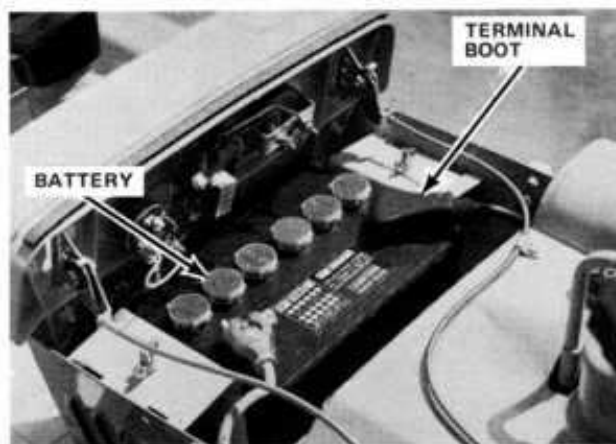

Figure 11
BEFORE DRIVING THE HUSKY, THE OPERATOR SHOULD BE FAMILIAR WITH THE LOCATION AND FUNCTIONS OF ALL CONTROLS. THE ENGINE WILL START ONLY WHEN PTO LEVER IS IN OFF POSITION AND PARKING BRAKE SET. SEE FIGURE 11.
**BATTERY** (Figure 11) — Keep cables and terminals clean and apply a light coat of petroleum jelly or oil for protection. Check battery bracket for corrosion and keep clean. The battery terminal boot supplied on the positive battery cable *must* be installed over the battery terminal after the cable is secured to the positive battery post. This is to prevent accidental shorting. See Figure 11.
*WHEN REINSTALLING BATTERY, ALWAYS POSITION CABLE TERMINALS AS SHOWN IN FIGURE 11.*